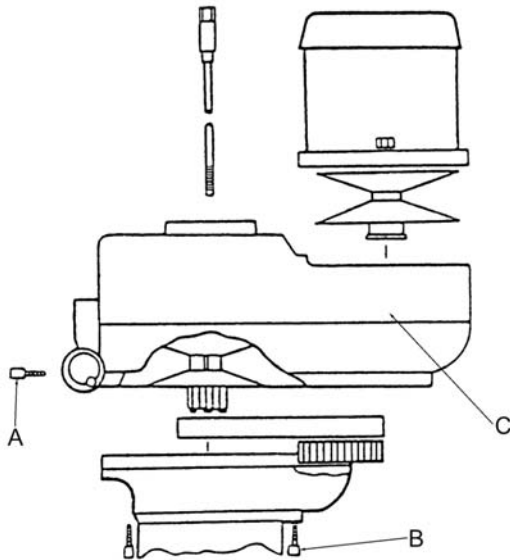

Figure 15
- Remove the two lower screws from the variable speed housing (A, Fig. 15).
- Remove the six screws (B, Fig. 15).
- Remove the top assembly (C, Fig. 15) and tap to clear dowels.